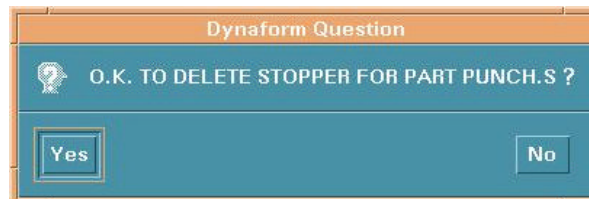

Figure 6.6.14 Delete Stopper Question
- Select DELETE to delete the defined stopper, see Figure 6.6.14.